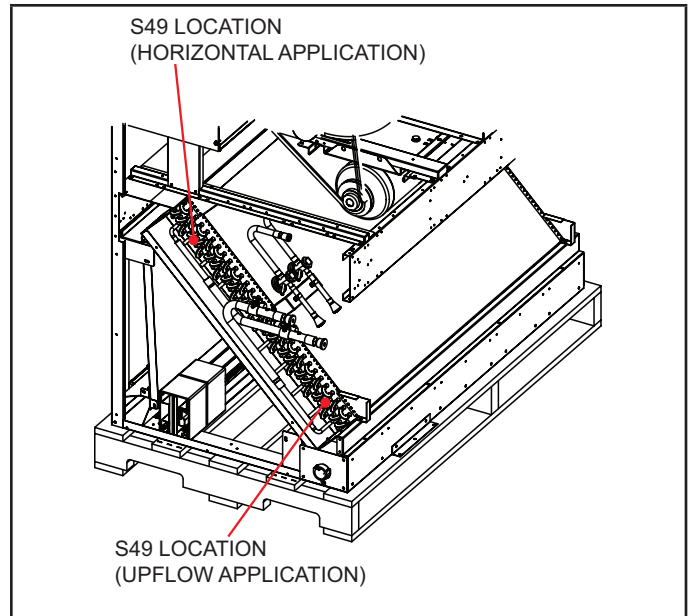

FIGURE 7. Location of S49 Freezestat
- 2 - Connect S49 and S50 freezestats to appropriate connections in harness. S49 will be located at lower end of coil, depending on upflow or horizontal orientation. S50 will be located at the top of the coil. See figure 7.
- 2 - Connect S49 and S50 freezestats to appropriate harness connections. S49 will be located at lower end of coil, depending on upflow or horizontal orientation. See figure 7.